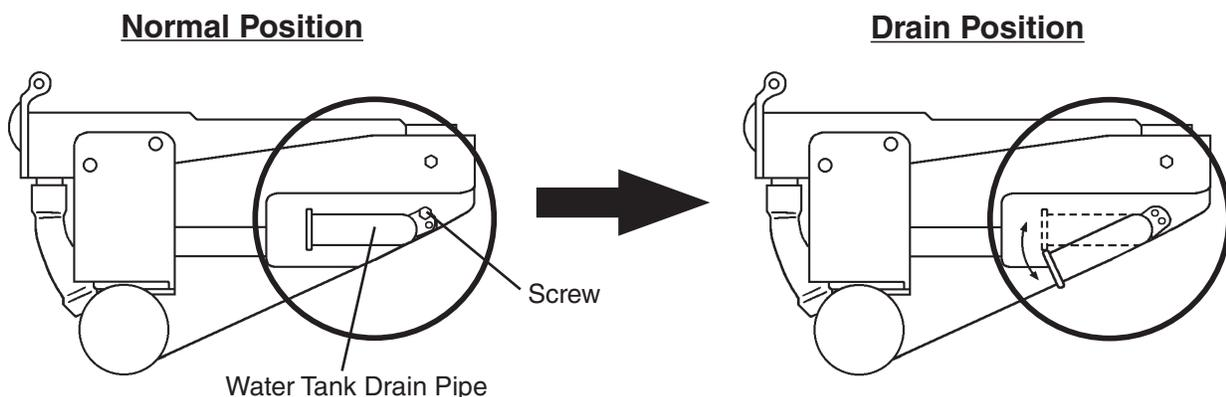

Fig. 3
- 3) Remove the screw, then move the water tank drain pipe to the drain position. See Fig. 3. Use the screw to secure the water tank drain pipe in the drain position.